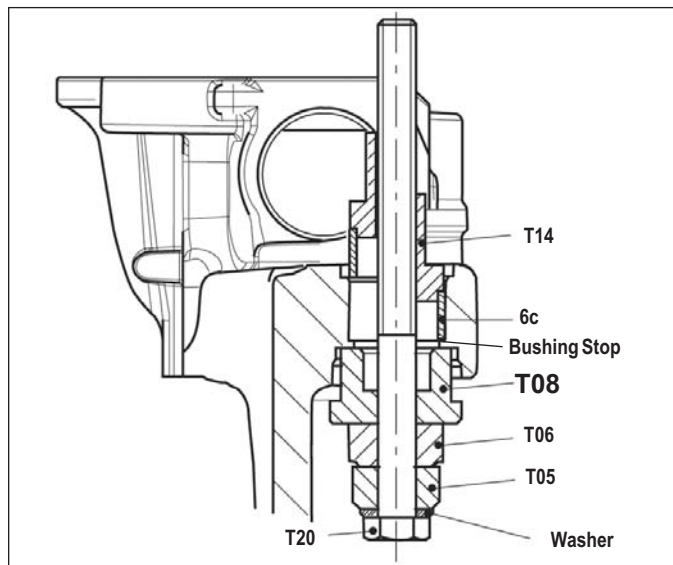

FIGURE 80 - GUIDE PIN BUSHING INSTALLATION
5.6.26 Use the tool combination shown in Figure 78 to draw the bushing (1) into the caliper. See also Figure 80, to see the orientation (with tool T14 at the top). Hand tighten the nut (T14) into position. Then tighten the bolt (T20) using a box end wrench or socket to draw the bushing (1) into the caliper until the bushing (1) contacts the machined step in the bore. Remove the tool.